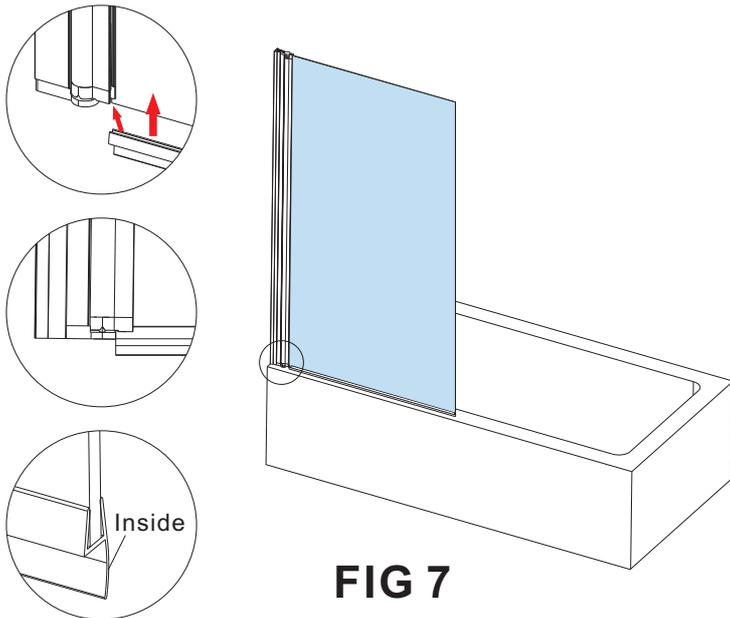

FIG 7
7. Insert the bottom seal into the Frame, So it sits against the bottom bracket. Ensure the fin on the bottom seal is to the inside. **FIG7.**